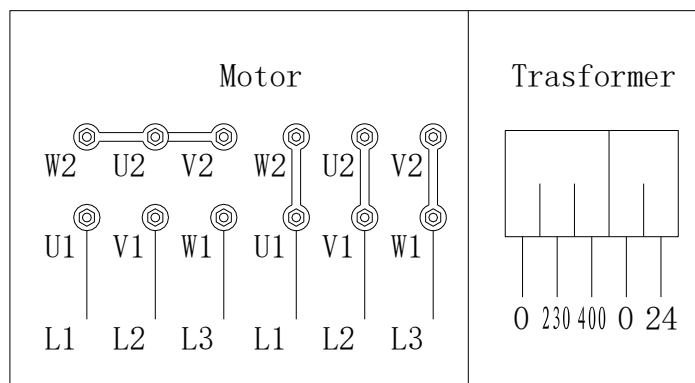

Fig.41
1. Connect the pump on the connecting board according to fig.41 and then fix on the main column.
The manufacturer supplies the rack to operate at 400V with a three-phase configuration; if the line voltage is different, the motor and transformer connection must be changed (Fig.41) it is also necessary to replace the thermal relay requesting that part from the manufacture and/or service center.